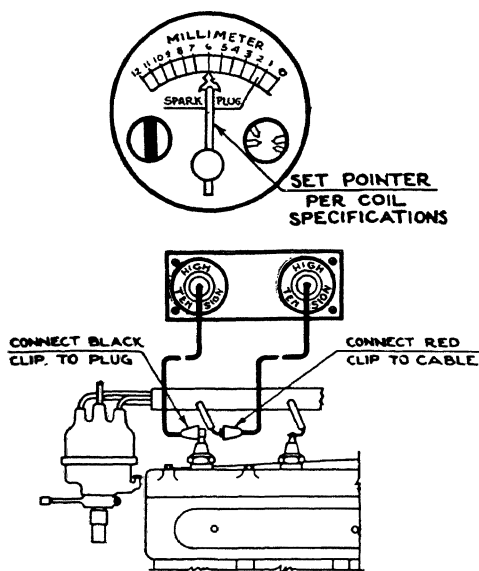

Fig. 24. Equipment for Making Ignition Cable Test
**Ignition Cable Test.** Disconnect the ignition cable from the spark plug. Connect the lead with red insulator, Fig. 24, to end of ignition cable; connect lead with black insulator to spark plug from which the cable being tested was removed. Set the pointer on spark gauge at zero. Start the engine and run at idling speed. Set the pointer on spark gauge to one millimeter less than the maximum gap